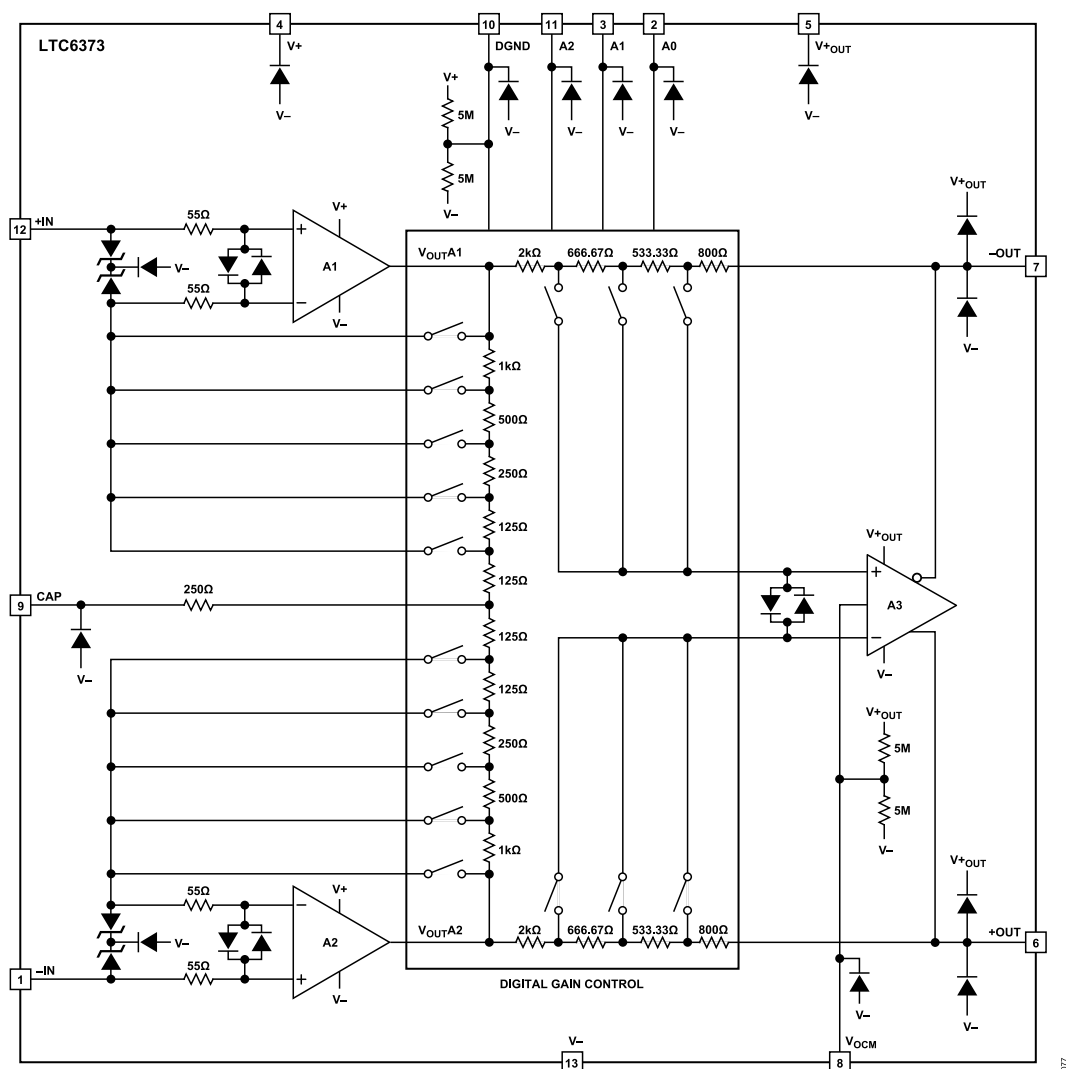
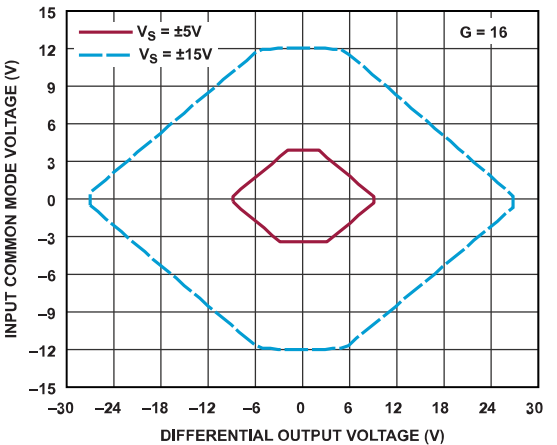
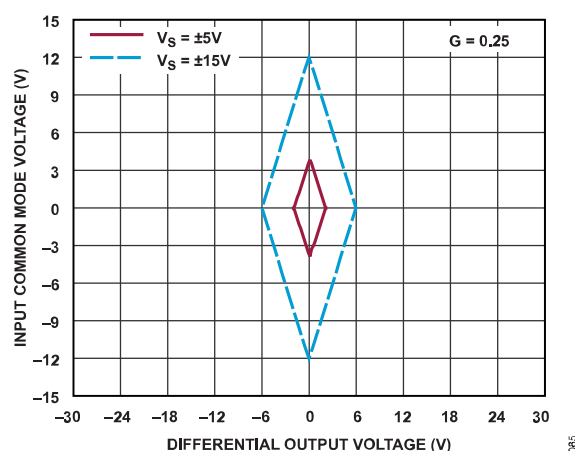

Figure 76. Simplified Block Diagram
Figure 78. Input Common Mode Range vs. Differential Output Voltage at G = 16 with No Load
Figure 84. Input Common Mode Range vs. Differential Output Voltage at $G = 0.25$ with No Load
The LTC6373 is a monolithic instrumentation amplifier based on the classic 3-op-amp topology, as shown in the Block Diagram of Figure 76. A parallel interface allows users to digitally program gains to one of the seven available settings ($G = 0.25, 0.5, 1, 2, 4, 8$, and 16 V/V) while the 8th state puts the part in shutdown mode (which reduces the current drawn from the supplies to $220 \mu\text{A}$). Gain control is achieved by switching resistors in an internal, precision resistor array (as shown in Figure 76). Although the LTC6373 has a voltage feedback topology, the gain-bandwidth product increases at higher gain settings because each gain has its own frequency compensation, resulting in increased bandwidth at higher gains and minimum phase variation across all gains.
Instrumentation amplifiers traditionally specify a valid input common mode range and an output swing range. This however often fails to identify swing limitations associated with internal nodes, as they experience a combination of gained differential signal and common mode signal. Referring to the Simplified Block Diagram of Figure 76, the output swing of amplifiers A1, A2, and A3 as well as the common mode input range of the output differential amplifier A3 impose limitations on the valid operating range. The graphs in Figure 78 to Figure 84 show the maximum input common mode voltage limits where a valid output is produced for each gain setting of LTC6373.
Plots in Figure 78 to Figure 84 show the input common mode voltage (V_{ICM}) range allowed for a given differential output voltage ($V_{OUTDIFF}$), under various combinations of gain (G) and supply (V_S) settings. In each plot, the output stage positive supply pin V_{OUT}^+ is tied to the main positive supply pin V^+ , $V_{OCM} = 0$ V (mid-rail) and there is no load.
To prevent damage, the LTC6373 has a comprehensive protection scheme, especially on the input pins, as illustrated in the Simplified Block Diagram of Figure 76. The input current applied to the LTC6373's input pins should be kept under ± 10 mA. To achieve additional input protection, external series resistors and/or low leakage clamp diodes should be used.